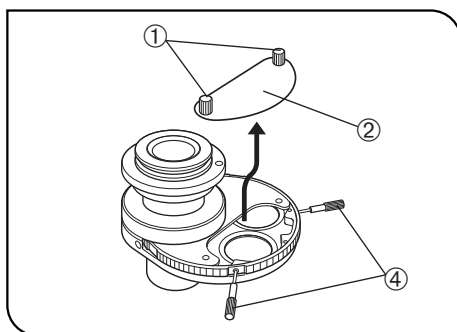

Fig. 46
(Figs. 46 & 47)
1. Place the condenser in the orientation as shown in Fig. 46 loosen the detaching screws ① and remove the cover ②.
3. Loosen the optical element position centering screws using the optical element centering knobs ④. (Figs. 46 & 47)